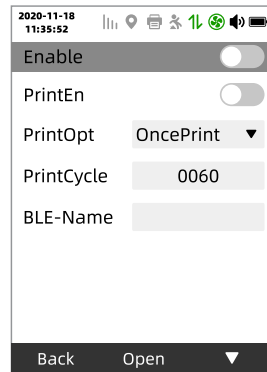

Figure 37
5.7.6.2 Bluetooth: Used for Bluetooth-related operations (Figure 37), including Bluetooth on and off, printer connection and disconnection, printing mode settings, and Bluetooth name settings. Click the left button to return to the previous menu; click the right button to switch menus; click the middle button to perform function operations.